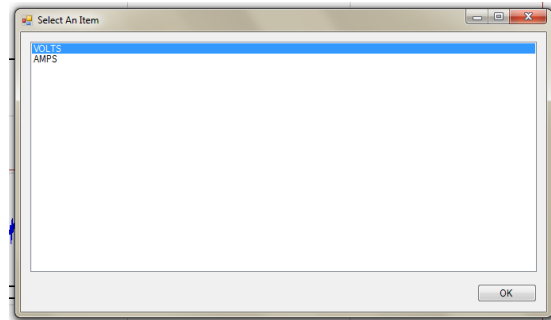

Figure 5.9.2.7.4
Step 3: For example select 'VOLTS' click 'OK' as shown in figure 5.9.2.7.4. The input box as shown in figure 5.9.2.7.5 appears.